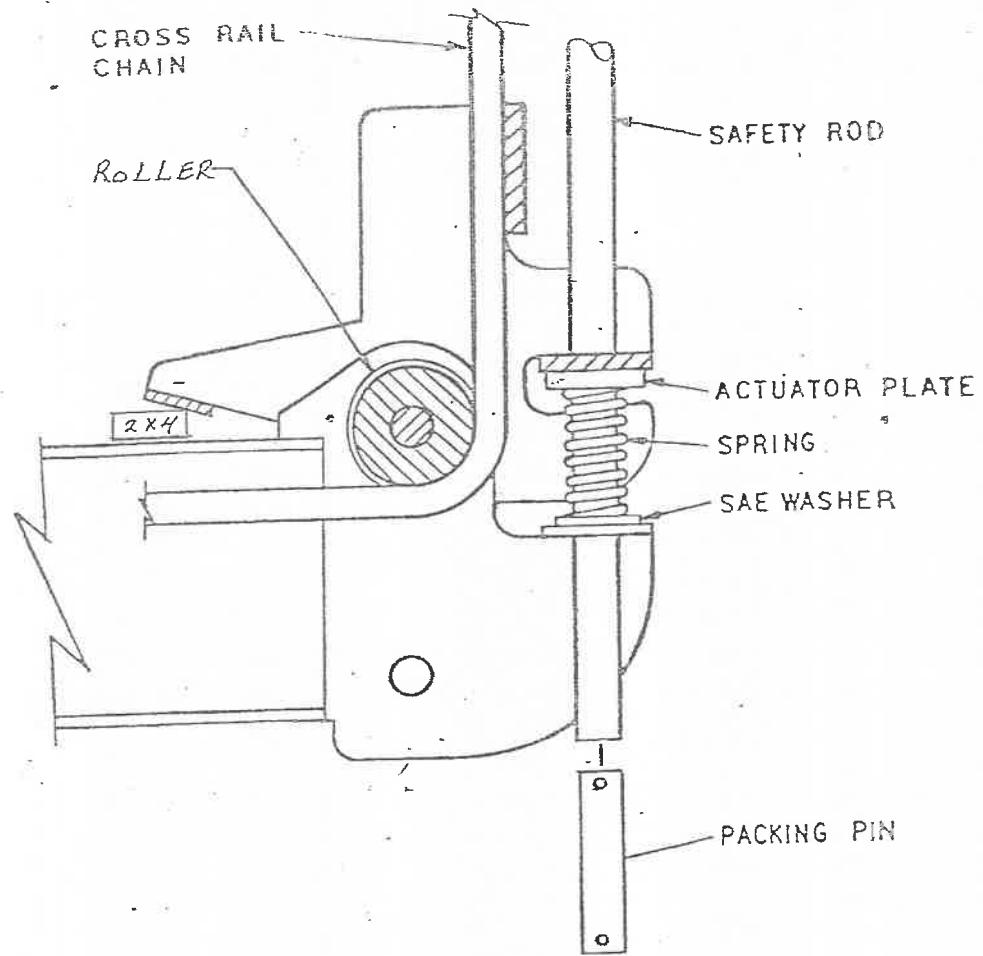

Figure 7. Safety Rod Installation, Offside.
Step 14. Position a 2 x 4 block under the safety latch of the cross rail as shown in figure 7. Remove packing pin from the cross rail end assembly. Remove the top nut from one  $\frac{3}{4}$ " safety rod. Turn down the second nut to the bottom of the thread on the rod. Insert safety rod end into the space occupied by the packing pin in the cross rail end assembly. Insert the top end of the safety rod into the rear hole at the top of the mainside leg while sliding the cross rail end into the mainside leg. Secure the top of the safety rod with a  $\frac{3}{4}$ " nut. Top  $\frac{3}{4}$ " nut should be flush with the end of the safety rod and the bottom nut should be tightened against the leg top. Repeat for the other cross rail.